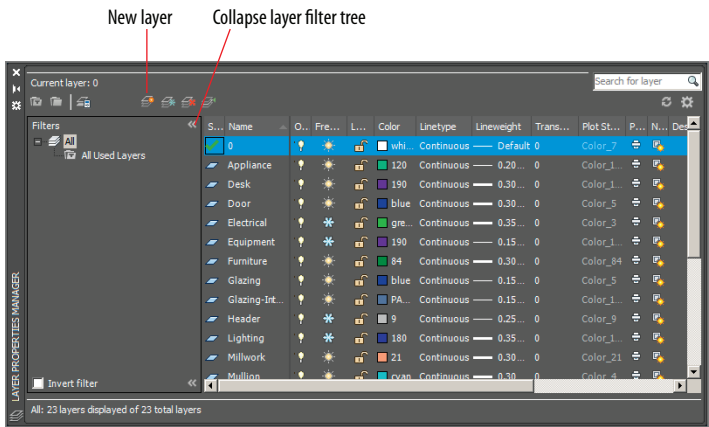

FIGURE 6.26 Layer Properties Manager
- 1. Click the Layer Properties tool in the Layers panel. The Layer Properties Manager appears (see Figure 6.26).